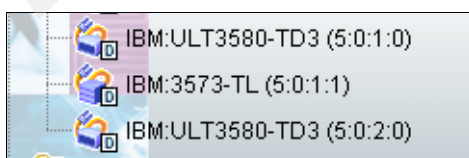

Figure 6-65 Discover new devices prepared for use
4. After the step completes, a little box with the green D will be added to the physical tape resources to indicate that they have been prepared for use by the TS7530 VE for Tape server. This is shown in Figure 6-65.